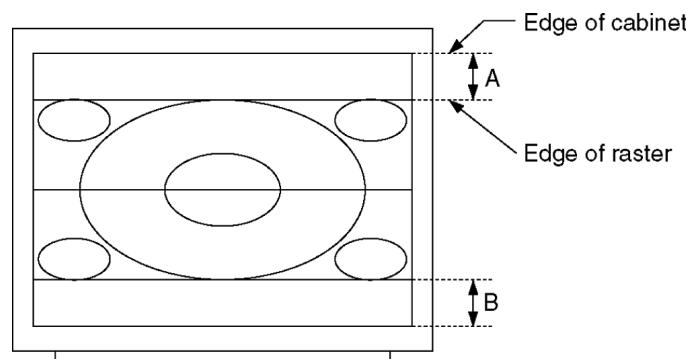

Fig. 22
5. Confirm that A, B in Fig. 22 is \*1, if not, adjust V-AMP (AMP(100i/16:9))